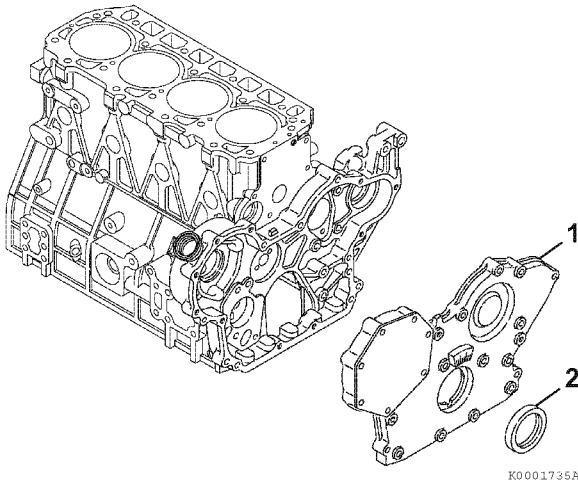

Figure 6-111
1. Remove the seal (Figure 6-111, (2)) from the cover (Figure 6-111, (1)).
2. Apply a continuous bead of ThreeBond Liquid Gasket No. 1212, YANMAR Part No. 977770-01212 to the outside diameter of a new oil seal (Figure 6-111, (2)), and install in the gear case cover. Apply lithium grease to the lip of the seal.